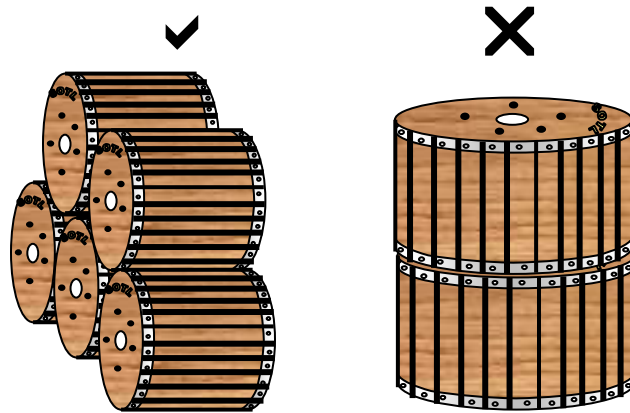

Fig 2. a) Packed drum stacked on their flange      b) Wrong Stacking of drums
- If storage place is limited and it becomes necessary to stack. Stack completely wrapped Drums on their flanges edge as shown in fig. 2.